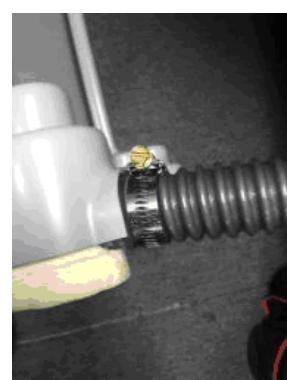

Figure 69.
12. Install drip tray drain tube on enclave as shown in Figure 69.